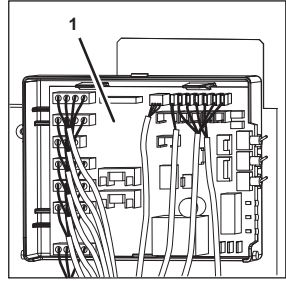

Figure 117
2. Disconnect all necessary electrical cables and plugs from control system 1 (Figure 117/1).
8. Connect all electrical cables and plugs to control system 1 (Figure 117/2).